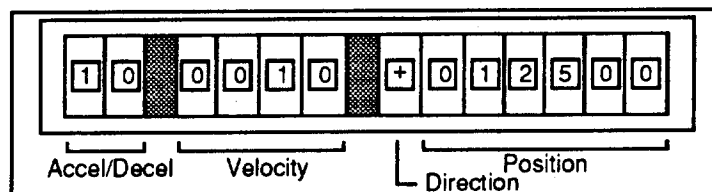

Figure 3-8. Thumbwheel Switches
1. Set the thumbwheel switches to the following parameters (see Figure 3-8 for thumbwheel illustration):